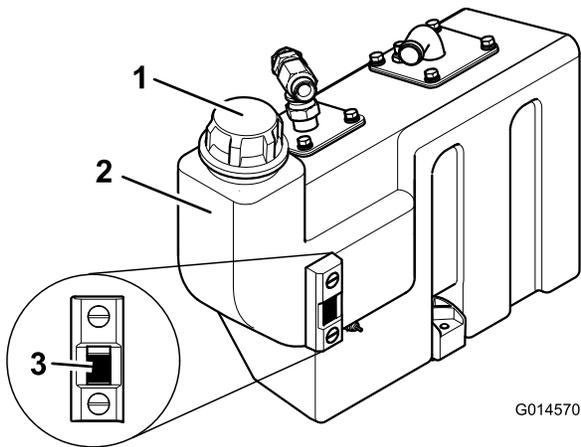

Figure 66
3. If additional hydraulic oil is needed, clean the area around the filler neck and the cap of the hydraulic tank (Figure 66) and remove the cap.